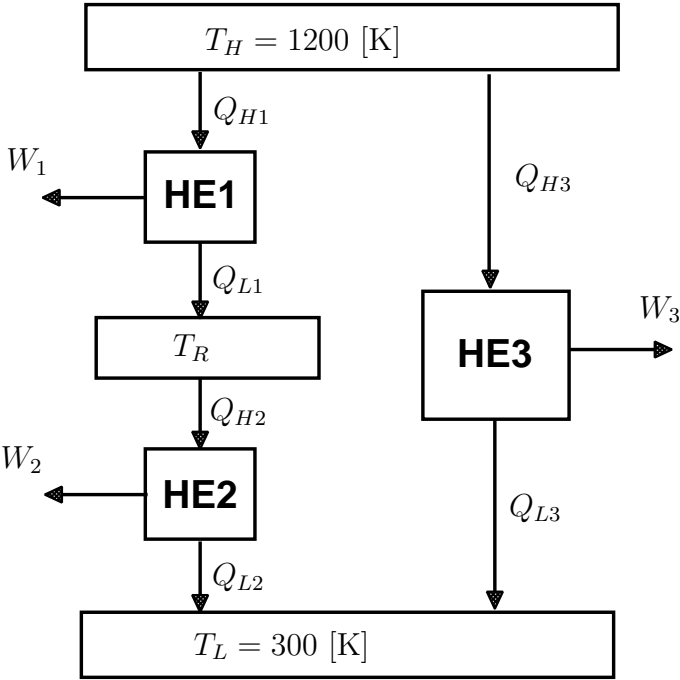

Figure 4: Figure for problem 5
5. Consider the system of three Carnot (reversible) heat engines as shown in Figure 4. Heat Engine 1 (HE1) operates between the temperature reservoirs  $T_H = 1200$  [K] and  $T_R$ , where  $T_R$  is unknown. Heat Engine 2 (HE2) operates between temperature reservoirs  $T_R$  and  $T_L = 300$  [K]. Heat Engine 3 (HE3) operates between temperature reservoirs  $T_H = 1200$  [K] and  $T_L = 300$  [K]. It is known that the ratio of work produced from HE1 to work produced from HE2 is 2 (*i.e.*,  $W_1/W_2 = 2$ ) and that  $Q_{H2} = Q_{L1}$ .